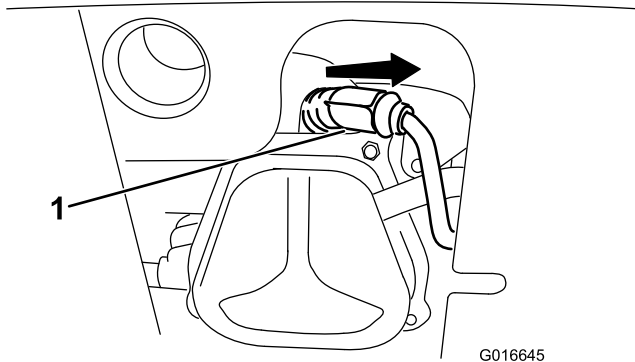

Figure 49
1. Remove the boot (Figure 49).